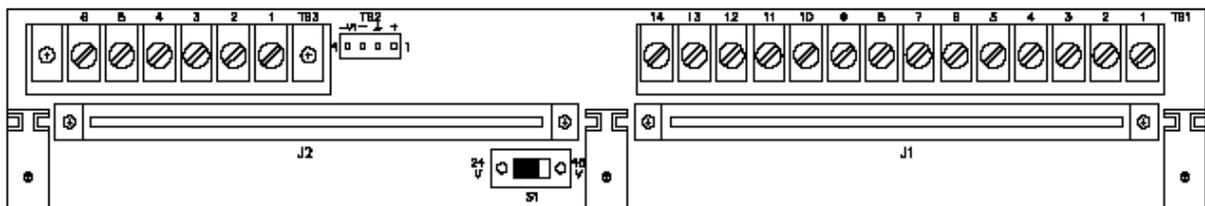

Figure 2. Option Switch and Terminal Block Locations
- 2.4 One option switch must be set before the 191300 Apparatus Case is placed in service. Switch *S1* selects the voltage output to the modules housed in the 191300 when ac input is used (*S1* is not in the circuit when dc input is used). To provide -24Vdc output, set *S1* to the 24V position. To provide -48Vdc output, set *S1* to the 48V position. Switch *S1* is located on the module side of the printed circuit board below connector *J2* (see figure 2). For optioning information on the modules housed in the 1913, please refer to their individual practices.
- 2.7 All wiring associated with the 1913 Case is performed in four basic steps. First, any required connections between the two Type 10 modules (intermodule wiring) are made. Next, the connections to the facility are brought out to the pin side of terminal strips *TB1* and *TB3* (internal wiring). Next, external leads are connected to the screw-terminal side of *TB1* and *TB3* (external connections). Finally, the power connections are made. Refer to figure 2 and the wiring diagram (section 4 of this practice) while making installer connections to the 1913 as directed below.